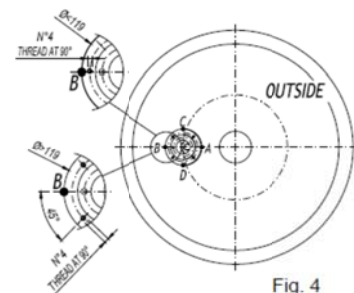

Fig. 4
- ◆ Check the alignment of the shroud holes as described in chapter 4.4.1. and fig. 4
- ◆ Tack weld externally of the vessel at A and B, check the alignment and inclination, make necessary corrections (fig. 4)
Tack weld at C and D (fig. 4)